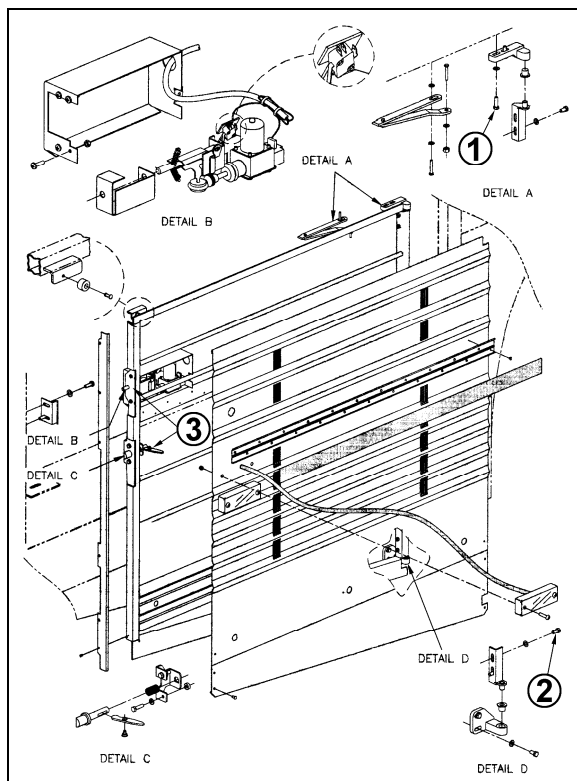

FIGURE 36: ENGINE COMPARTMENT R.H. SIDE DOOR 18635
1. Loosen the bolts, (1, Fig. 36) holding the hinge to the vehicle structure to shift the door "IN or OUT" and "UP or DOWN".
2. Loosening the bolts (2, Fig. 36) allows the door to be shifted "LEFT or RIGHT" and "UP or DOWN".